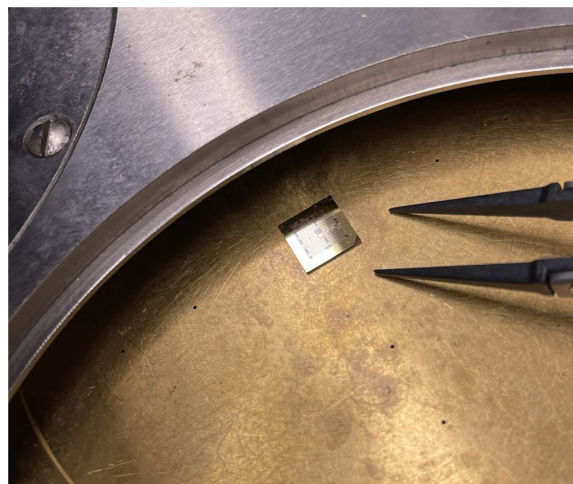

Fig. 8.1. Load the sample onto the center of the wafer chuck.
8.4 Using plastic or plastic-tipped tweezers from the accessory box or your own supply, load the sample onto the center of the chuck (Fig. 8.1), with its x-axis aligned with the x-axis of the chuck. Avoid scratching the soft surface of the gold-plated chuck. **Never touch the chuck with bare hands or metal tweezers!**